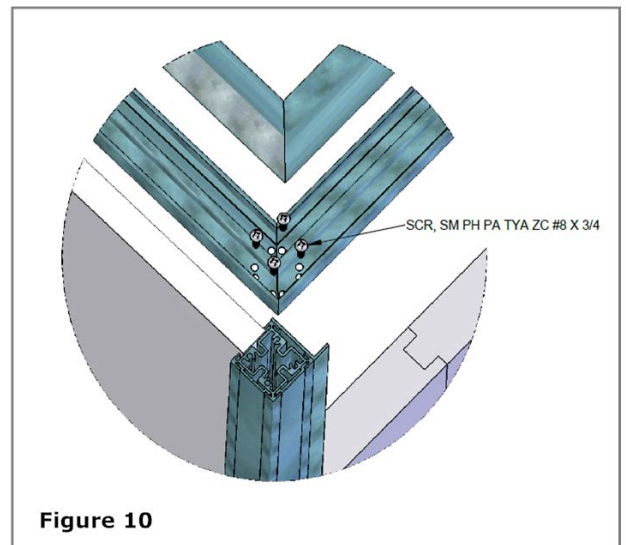

Figure 10
8. The header pieces will attach to the posts and panels with the fasteners provided. **See Figure 10.** Find each header by size according to the breakdown drawing of the parts. Once headers are attached, cover them with the header caps by snapping them into place.